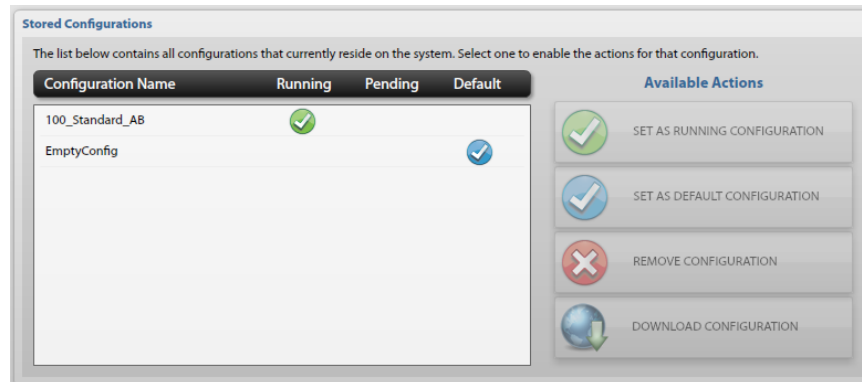

Figure 45. Stored Configurations
The STORED CONFIGURATIONS panel (see Figure 45) lists the available configurations and their current state on the current E3 controller. Create configurations using the *Elemec3* Console application. See Pub. 42004-550 for information on creating E3 configurations (see the Reference Documentation section).
1. Select the desired configuration from the STORED CONFIGURATIONS panel (see Figure 45).